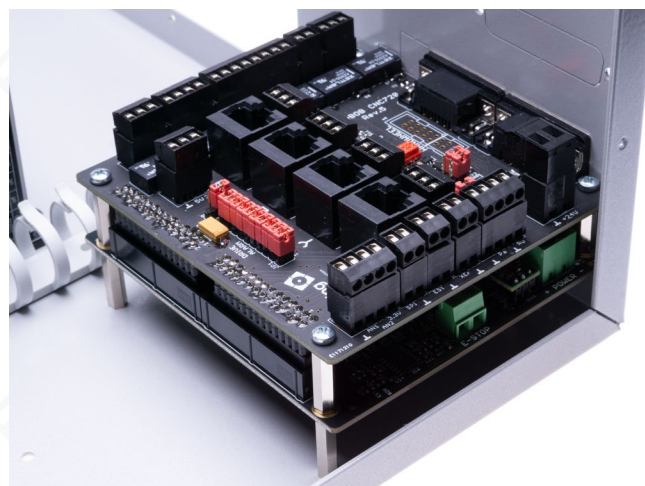

Fig. 11: Mounting of controller and Simple BOB
- Connect the controller **12** and the breakout board **13** with screws **S2** and the spacers **D1** and **D2**, as shown in Fig. 11.
- Mount the combination with screws **S2** on the floor and the SUB-D screw connections on the rear wall of the housing. See Fig. 11 and 12.